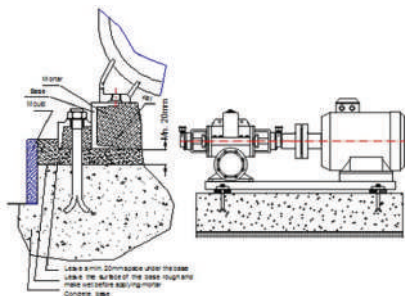

Figure 2: A Typical Concrete Foundation
- Install the pump on the concrete base as illustrated in Figure 2.